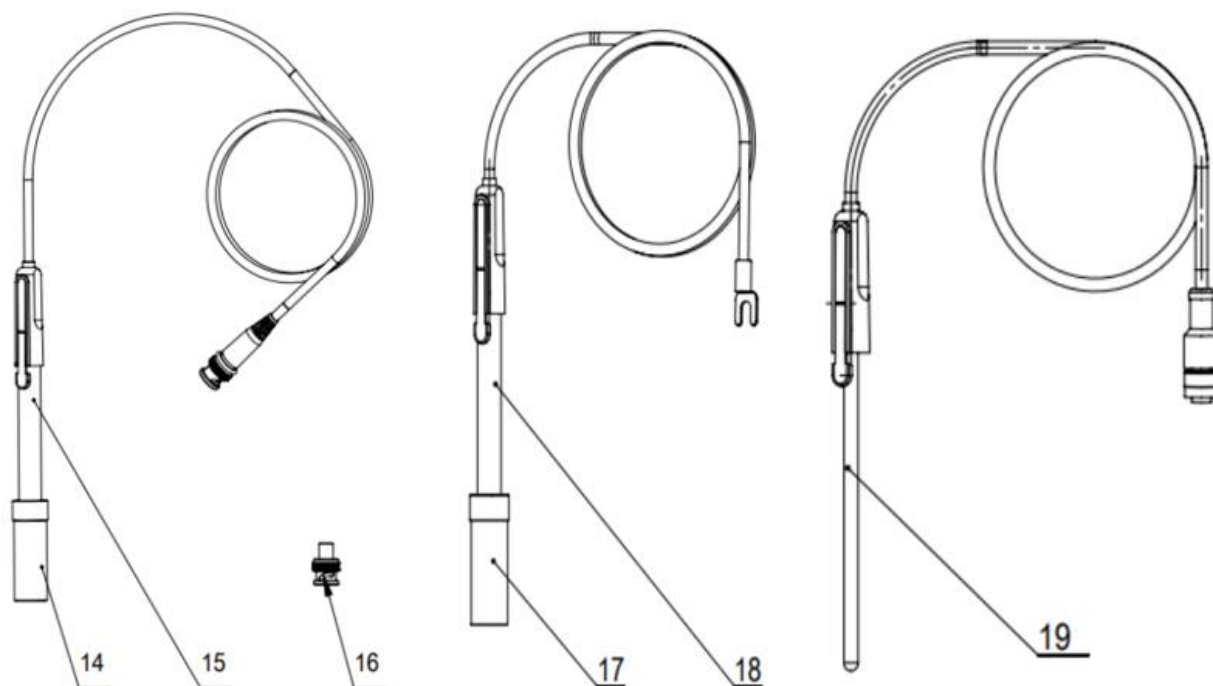

Figure-3
- 1) Push the Fluoride ion electrode (**15**) (**Figure-3**) into the electrode holder (**5**). Find the measuring electrode socket (**9**) on the back of the instrument, and unplug the Q9 shorting circuit connector (**16**). Then, insert the fluoride ion electrode connector into the measuring electrode socket (**9**).